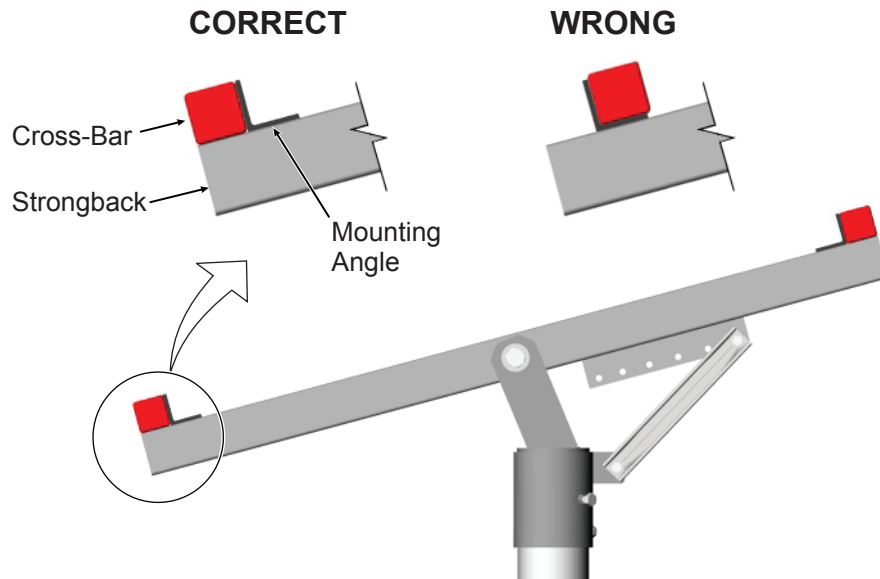

Figure 5-1: Cross-Bar Positioning Relative to Mounting Angles
Cross-Bars run in an E-W direction and are secured to the mounting angles (welded to the Strongback) using 3/8" square flat washers along with 3/8" x 3-1/4" bolts and hardware; they are not nested into the Mounting Angles (see Figure 5-1). There are two Cross-Bars to install, at opposite ends of the Strongback.
- Continue in this manner and install the opposite Cross-Bar to the Strongback. Refer to Figure 5-1 for proper positioning.